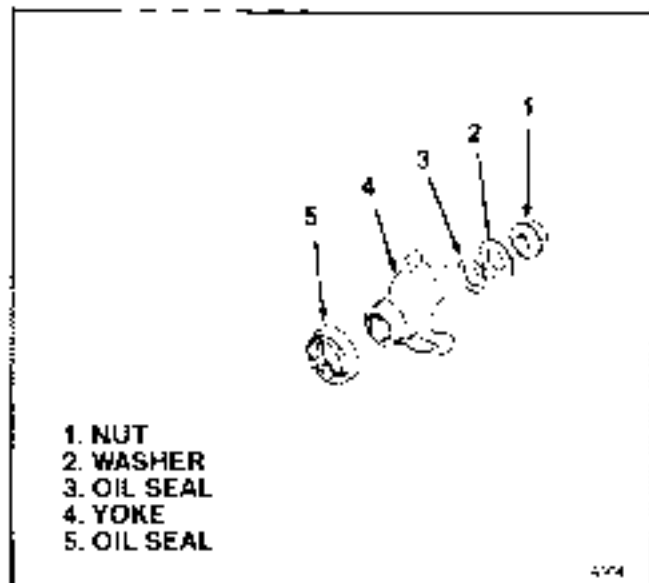
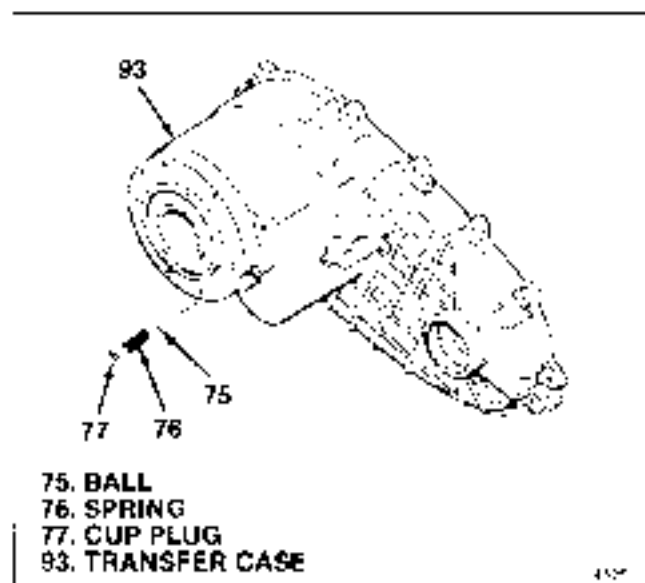

Figure 5-18. Rear Yoke Group
Figure 5-19. Installing Cam Ball and Spring
**5-16. INSTALLING REAR YOKE GROUP:** To assemble as completed thus far (9) through (13) install parts as follows (see figure 5-18):
a. Fit oil seal (5) over cover with side marked **OUTSIDE**, up. Using section's drift, press in oil seal until outside end is flush with bottom of chamber in cover.
b. Fit oil seal (3) on output shaft with sealing bead facing out. Install yoke (4), washer (2) and nut (1). Torque nut (1) and nut (78) (figure 5-19) on lower output shaft to 150-180  $\text{lb-ft}$  (203-241 Nm).
**5-17. INSTALLING CAM BALL AND SPRING:** See figure 5-19 and proceed as follows:
a. Insert ball (75) and spring (76) into transfer case (93).
b. Apply force to (76) to OD of cup plug (77). Drive in cup plug, closed end first, until top end of cup plug is 1/16 in (2.5 mm) below face of transfer case (93).